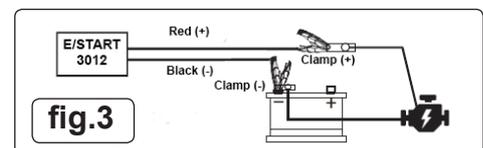

fig.3
- 5.4.2. Remove the vehicle's positive (red) lead from the battery terminal (fig.3).
- 5.4.3. Ensure that the E/START3012 is switched off. Connect the E/START3012 positive clamp to the vehicle positive lead, **NOT** the battery terminal (fig.3).